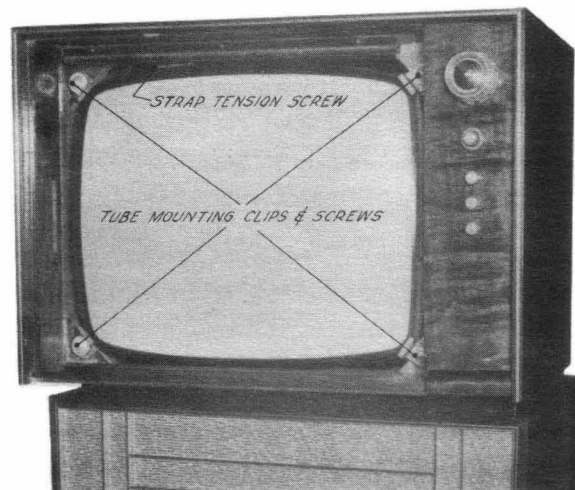

Fig. 7
- (e) Supporting the picture tube remove the four mounting nuts as shown in Figure 7.